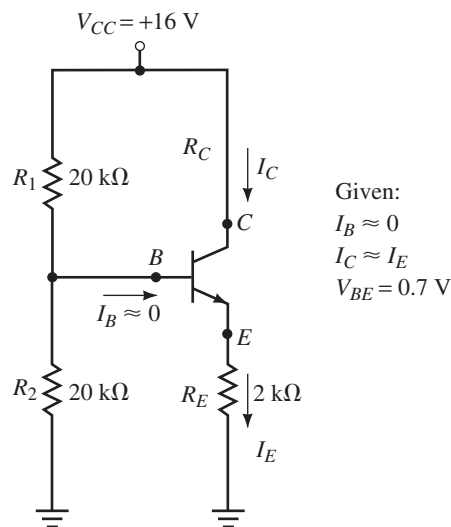

FIGURE 7-68
26. Calculate I_C and V_{CE} for the circuit of Figure 7-68.